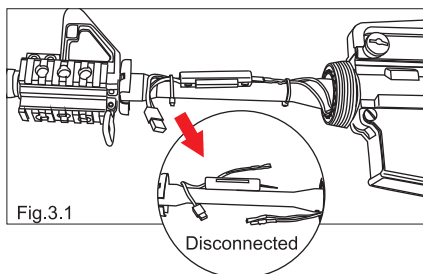

Fig.3.1
- 4 **Commando Series only**, Disconnect the wire connection as shown in Fig. 3.1.